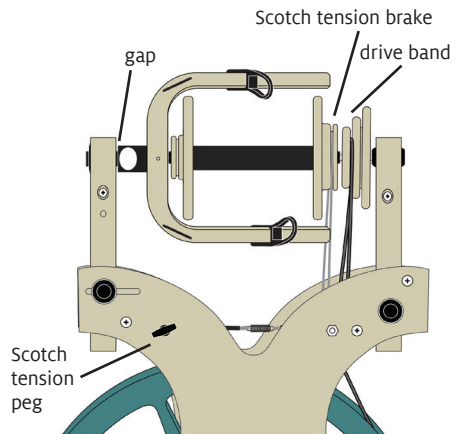

FIGURE 3: INSTALL BULKY FLYER
**6.** Add the bulky bobbin and a whorl to the bulky flyer. Orient the bulky bobbin with its large end at the back of the wheel, as shown in Figure 3.
**8.** Install the flyer on the wheel: Slide the flyer through the Scotch tension brake and the drive band (Figure 3). Place the flyer shaft in the rear bearing. Place the orifice in the front bearing, then slide back the front maiden until it rests against the front maiden stops. Tighten the quick release lever on the front maiden.
**The front and rear maidens must be vertical and pushed tightly against their stops, as shown in Figure 3.** When they are correctly positioned, there will be a gap of about 1/16" between the front bearing and the shoulder of the flyer shaft. If there is no gap, see "Troubleshooting" below.